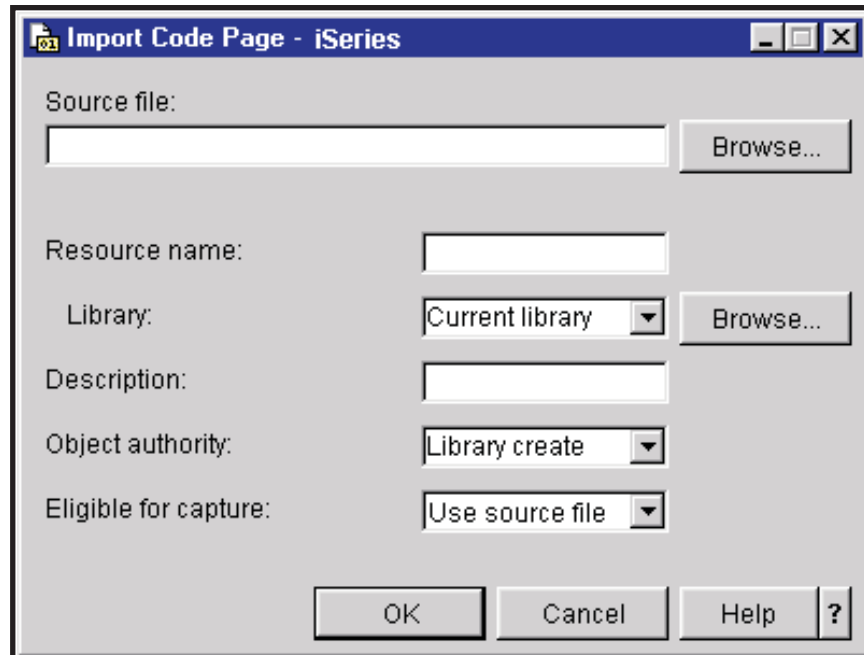

Figure 201. Import Code Page Window
- b. Right-click **Code pages** or **Font character sets**, and select **Import**. A window like the one shown in Figure 201 opens, depending on the type of resource you selected.